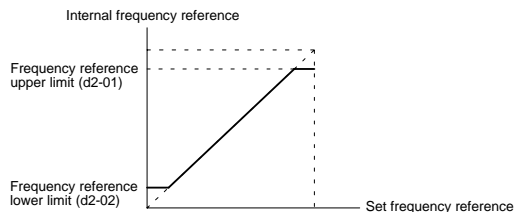

Fig 7.13 Upper and Lower Limits of the Frequency Reference
- The upper and lower limits of the frequency reference are shown in Figure 7.13.